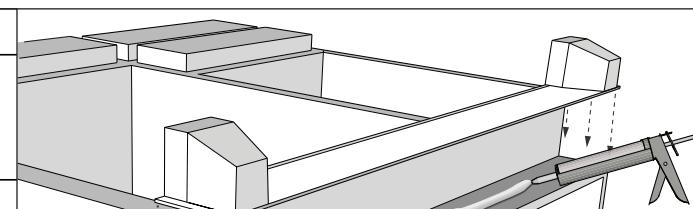

Figure 3
- 4 Insert two 1" flat head wood screws to secure the leg to the toe kick overlay as shown in Figure 3.